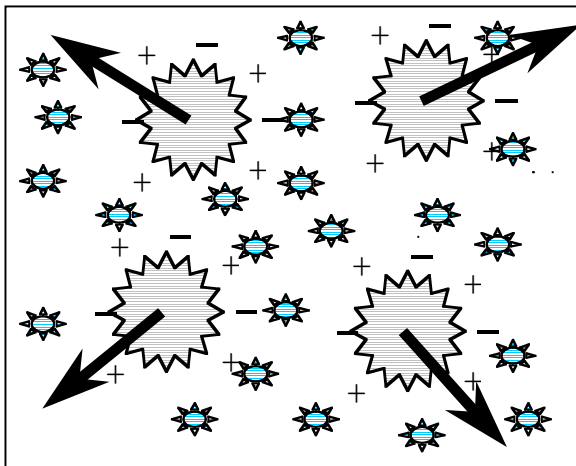
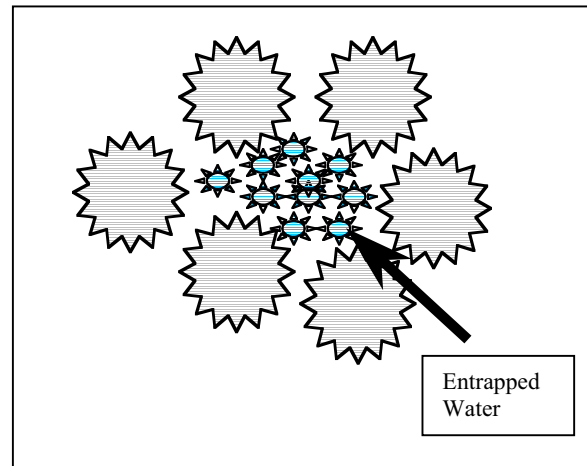

Figure 1: The effect of a water reducing admixture on the dispersion of cement particles
Figure 2: Flocculating cement particles trapping the mix water
- Surface active admixtures (surfactants). These are generally split into two components (one positively charged and the other negatively charged) and react with the air - water - solid material interface within the mortar thereby resulting in orientation and adsorption. (Orientation means that the particles all face or point in the same direction, adsorption means a concentration of molecules gathering or being deposited on the surface of a solid material see Figure 1).
When these are incorporated into a mortar mix the admixture particles are adsorbed onto the surface of the cement particles and the negatively charged tails protrude. These repel each other, as illustrated diagrammatically in Figure 1. (You may recall from your school days experiments with magnets; that like charges repel and unlike charges attract.) The repulsion of the like charges results in a powerful deflocculating action and hence a more uniform distribution of the cement particles throughout the mix; this action also frees some of the water trapped by the flocculation of the cement particles as shown in Figure 2. This has a lubricating effect on the mix components and results in an increase in workability, (a plasticizing effect). Where this is not desired the quantity of added water can be reduced (a water reducing effect), leading to an increase in the compressive strength of the mix.